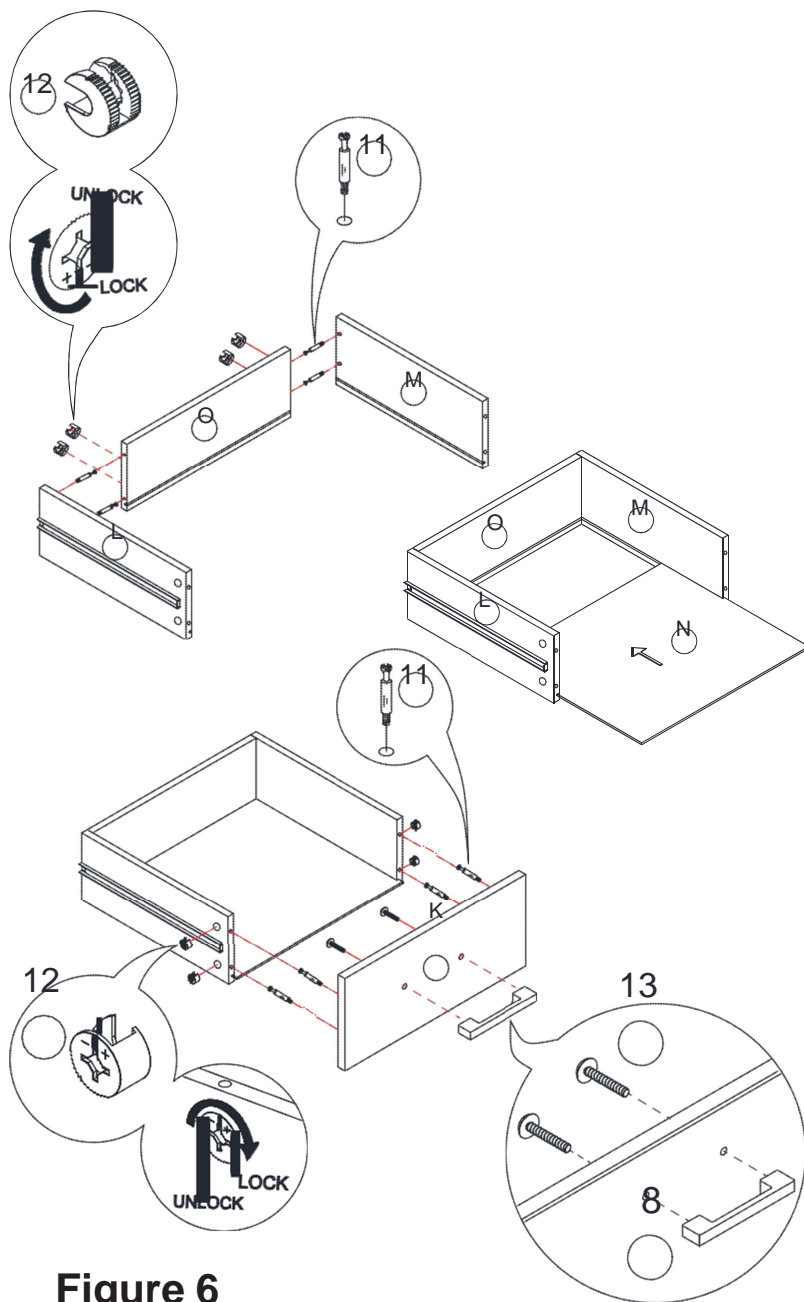

Figure 6
Install cam locks (12) into the drawer back panel (O). Assemble the drawer left panel (L), drawer right panel (M), and drawer back panel (O) using cam bolts (11) as shown in figure 6.
Insert the drawer bottom panel (N) into the assembly as shown in figure 6.
Install cam locks (12) into the panels (L) and (M). Attach the door handle (8) to the drawer front panel (K) using screws (13) through the pre-drilled holes as shown in figure 6.
Assemble the drawer front panel (K) to the assembly using cam bolts (11) as shown in figure 6.